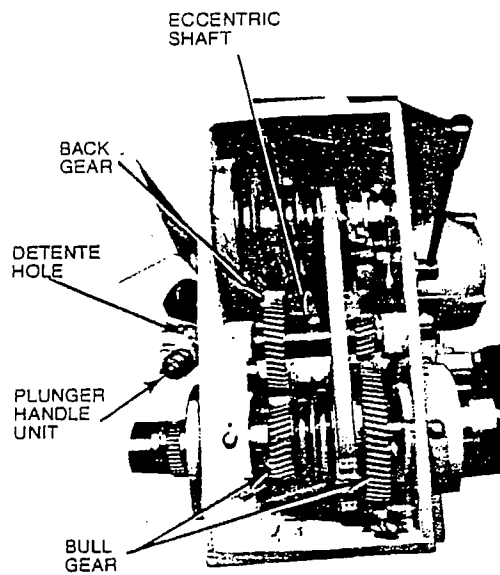

FIGURE 34
2. Pull off back gear shift plunger handle unit (Figure 34).